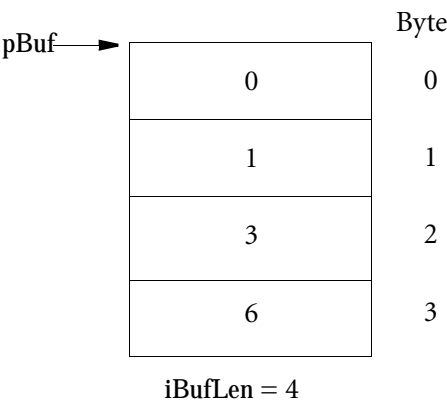

Figure 3–3: Set Poll List Command Example
Use the `dlWrite` function with the `pOptArgs.usProtCommand` field set to `DLI_PROT_SET_POLL_LIST` to set the BSC 3270 poll list. The buffer pointed to by the `pBuf` parameter contains a variable number of 8-bit bytes (up to 64) containing the control unit (CU) numbers to poll. The `iBufLen` parameter equals the number of bytes in the poll list. When used on links configured as control stations, this command determines which tributary stations are to be included in the general polling sequence. CU numbers within the list may be in any order and duplication of CU numbers is allowed. If the BSC 3270 software detects an illegal CU number in the list (*i.e.* not from 0 to 31, inclusive), that CU is removed from the list. Unlike the other configuration commands, the Set Poll List command can be issued when the link is either active or inactive. Figure 3–3 shows an example of the Set Poll List command. After the poll list is changed, the